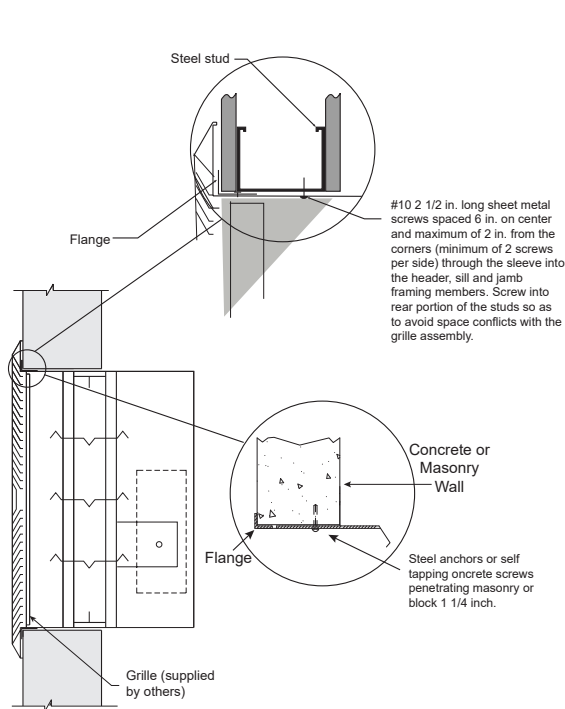

Figure 1 - Metal Stud or Concrete Wall
- Flange on front (grille end) of sleeve must be a minimum of 16 ga. (1.6 mm) steel and have a ⅝ in. minimum flange leg. Using #10 sheet metal screws, screw from inside of sleeve through the rear portion of the studs (as shown in **Figure 1 and 2**). Space screws a maximum of 6 in. (152 mm) on center and a maximum of 2 in. (51 mm) from the corners (minimum of two screws per side). No retaining angles are required on the side of wall opposite from the grille.